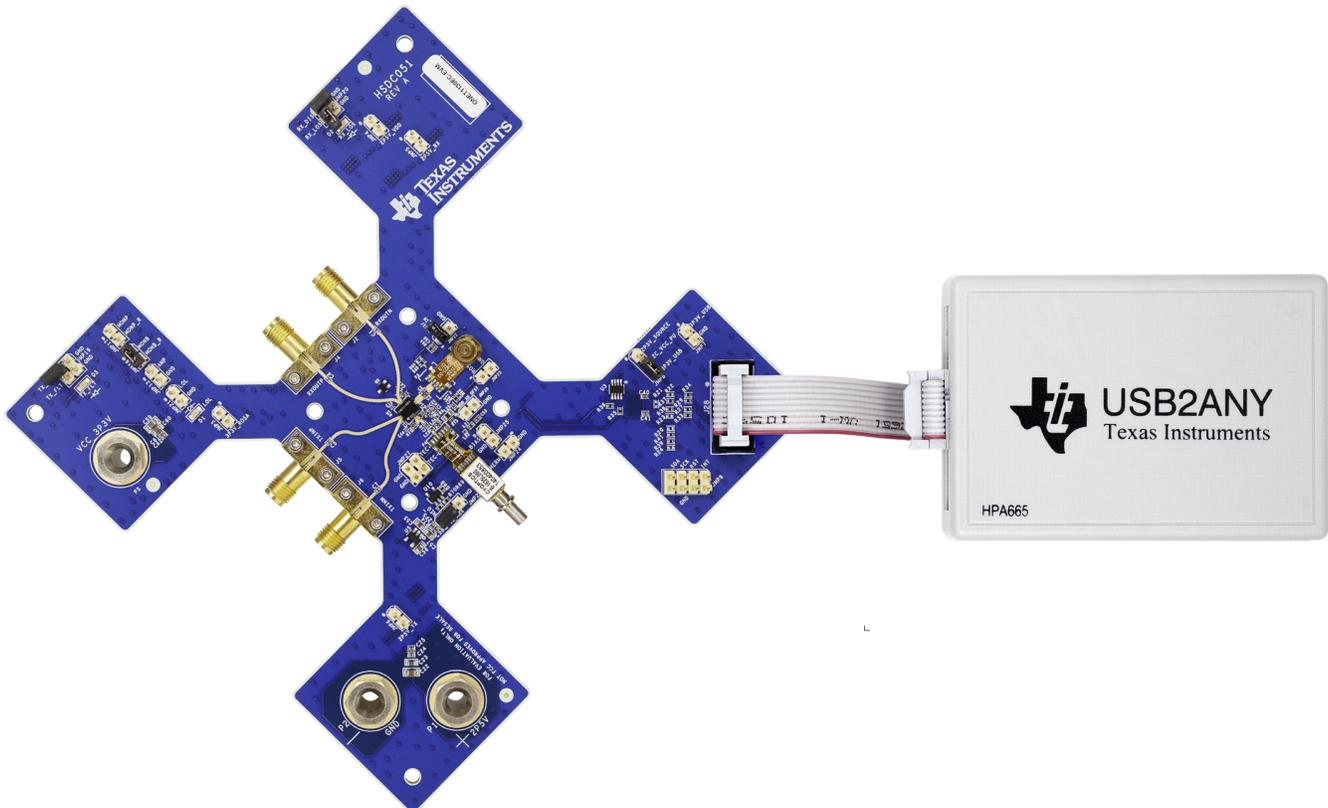

Figure 6. Cable Connected to USB2ANY
3. Connect the USB2ANY 10-pin cable to the USB2ANY box as shown in Figure 6. Connect the other side of the 10-pin cable need to J28 on the ONET1130EC-EVM. Note that this cable is locked.